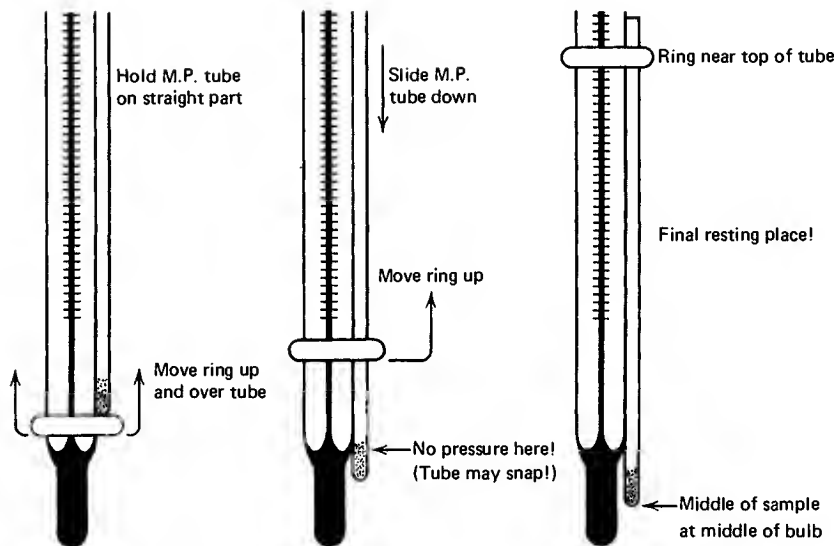

Fig. 40 Attaching M. P. tube to thermometer without a disaster.
2. Put the *bottom* of the loaded M.P. tube *just above* the place where the thermometer constricts (Fig. 40), and carefully roll the rubber ring onto the M.P. tube.